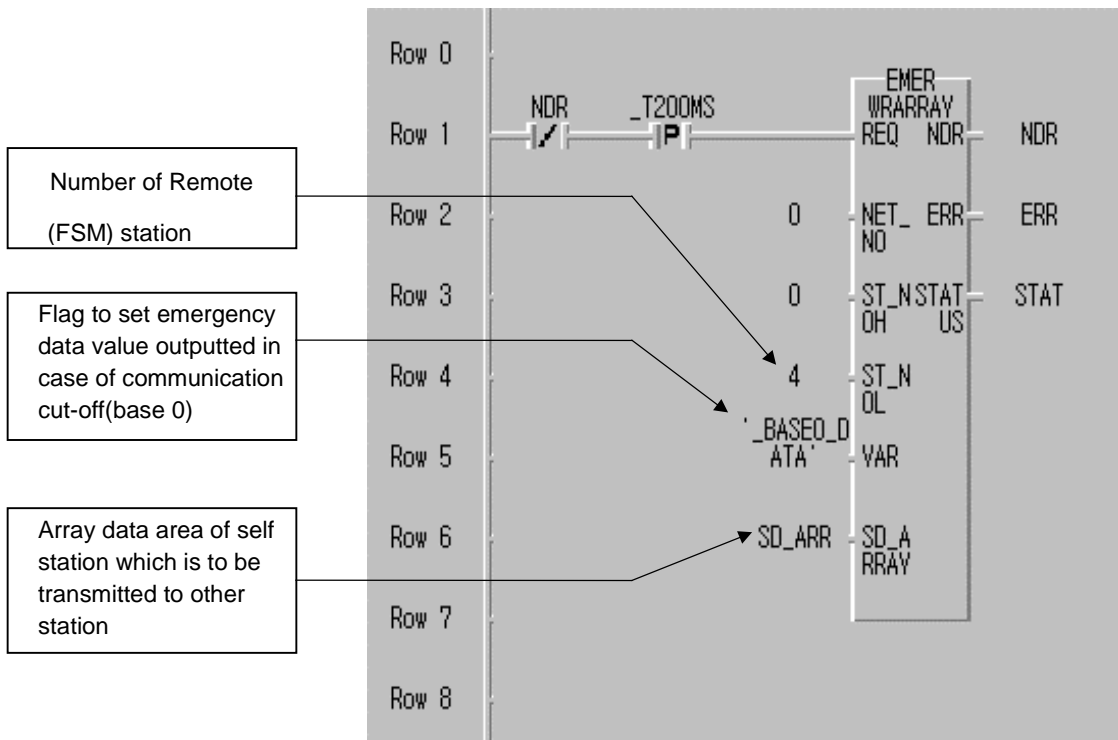

Fig. 6.6.7(D) Ex. of emergency data output program using \_BASEx\_DATA flag
Fig. 6.6.7(D) shows an example that transmits user-defined emergency data to remote station using `_BASEx_DATA` of FSM communication flag by GMWIN program. `WRARRAY` is used for *function block* as shown in Fig. 6.6.7(D). `NET_NO` indicates slot location that communication module(FMM) that this communication block is executed is mounted. Set `ST_NOH` to '0' and enter station number of remote module into `ST_NOL`. Use '`_BASE0_DATA`' flag(if remote 0 base) for variable identifier(VAR) to be transmitted to other station, and set `SD_ARR` that array data of self station to be transmitted to other station(station 04) to `SD_ARRAY`.